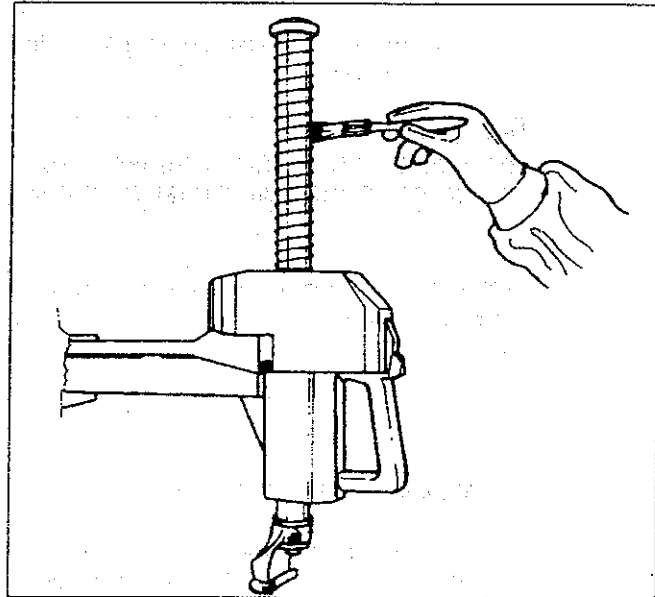

Fig.30
A. Periodically clean the vertical hexagonal rod with nonflammable liquid detergent. After this immediately lubricate with oil (Fig.30).